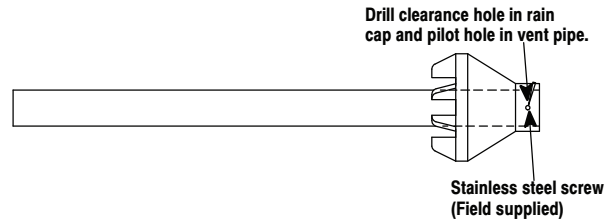

Fig. 34 - Rain Cap to Vent Pipe Assembly
- a. Cement the Y Concentric fitting to the longest of the two straight kit pipes. See Fig. 34.
- b. Cement the rain cap to the shortest of the straight kit parts. (See Fig. 34.)
NOTE: A field supplied stainless steel screw may be used to secure the rain cap to the pipe instead of cementing when field disassembly is desired for cleaning (See Fig. 34.)